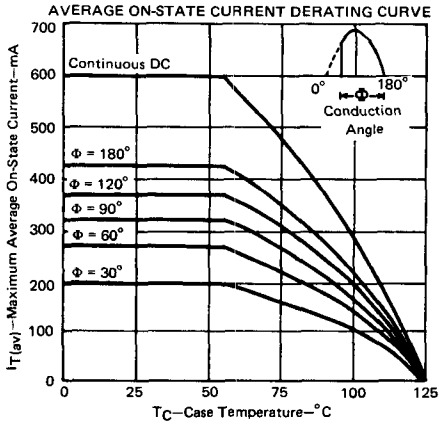

FIGURE 5
2. These values apply for continuous d-c operation with resistive load. Above 55°C derate according to Figure 5.
4. This value may be applied continuously under single-phase, 60-Hz, half-sine-wave operation with resistive load. Above 55°C derate according to Figure 5.